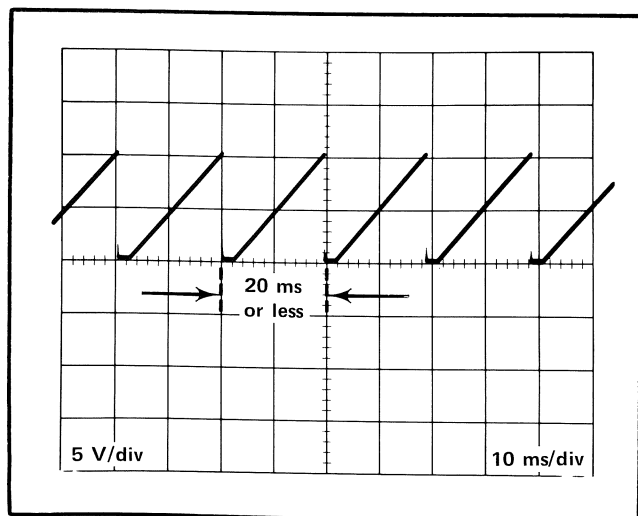

Fig. 5-3. Minimum sweep period check. The VARIABLE OR EXT ATTEN control is fully clockwise (Step 8 first part).
d. CHECK that the repetitive period is 20 ms or less (see Fig. 5-3).